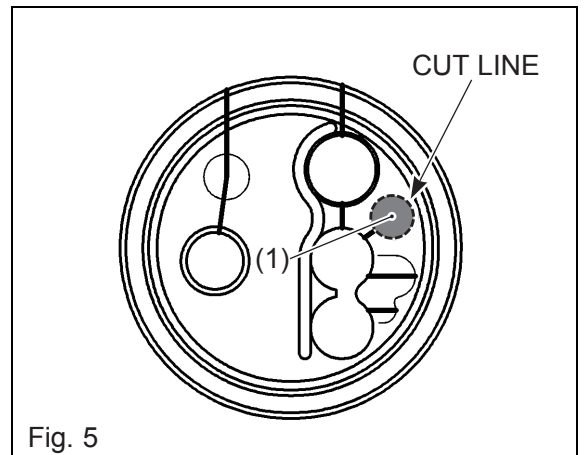

Fig. 5
6. Cut the grommet as shown in Fig. 5.
7. Pass the engine adapter wire (1) through the position of the grommet as shown in Fig. 5.